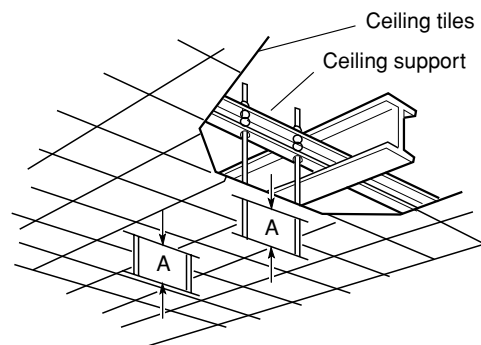

Fig. 3-86
- b) Use existing ceiling supports or construct a suitable support as shown in Fig. 3-86.